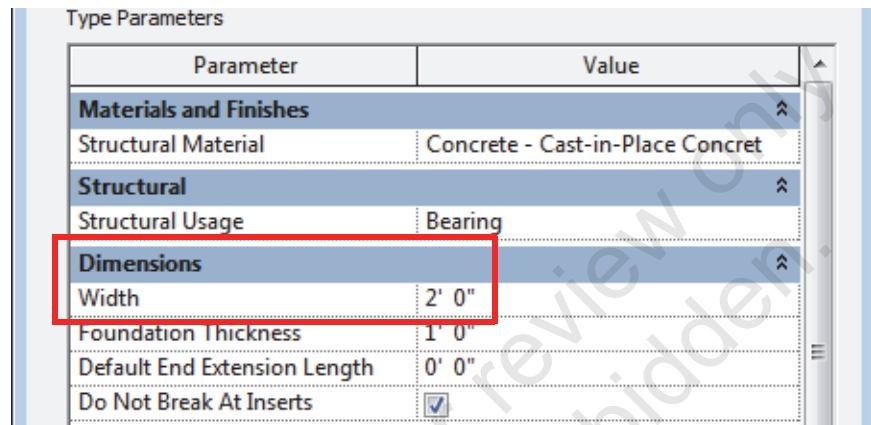

Figure 1–70
6. In the Type Properties dialog box, under *Dimensions*, set the *Width* to **2'-0"**, as shown in Figure 1–70.